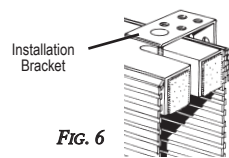

FIG. 6
- Push the headrail up onto the brackets so that the threaded posts on the brackets fit through the slots in the headrail. (See Fig. 6.)